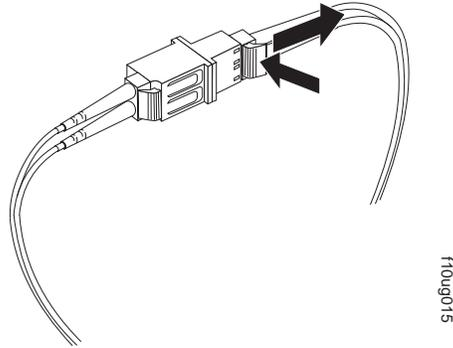

Figure 36. Removing the LC-LC fibre-channel cable from an LC-SC fibre-channel cable adapter
2. Carefully pull on the connector to remove it. Make sure you grasp the connector and not the cable when removing the LC-LC cable from the LC-SC cable adapter as shown in Figure 36 on page 54.